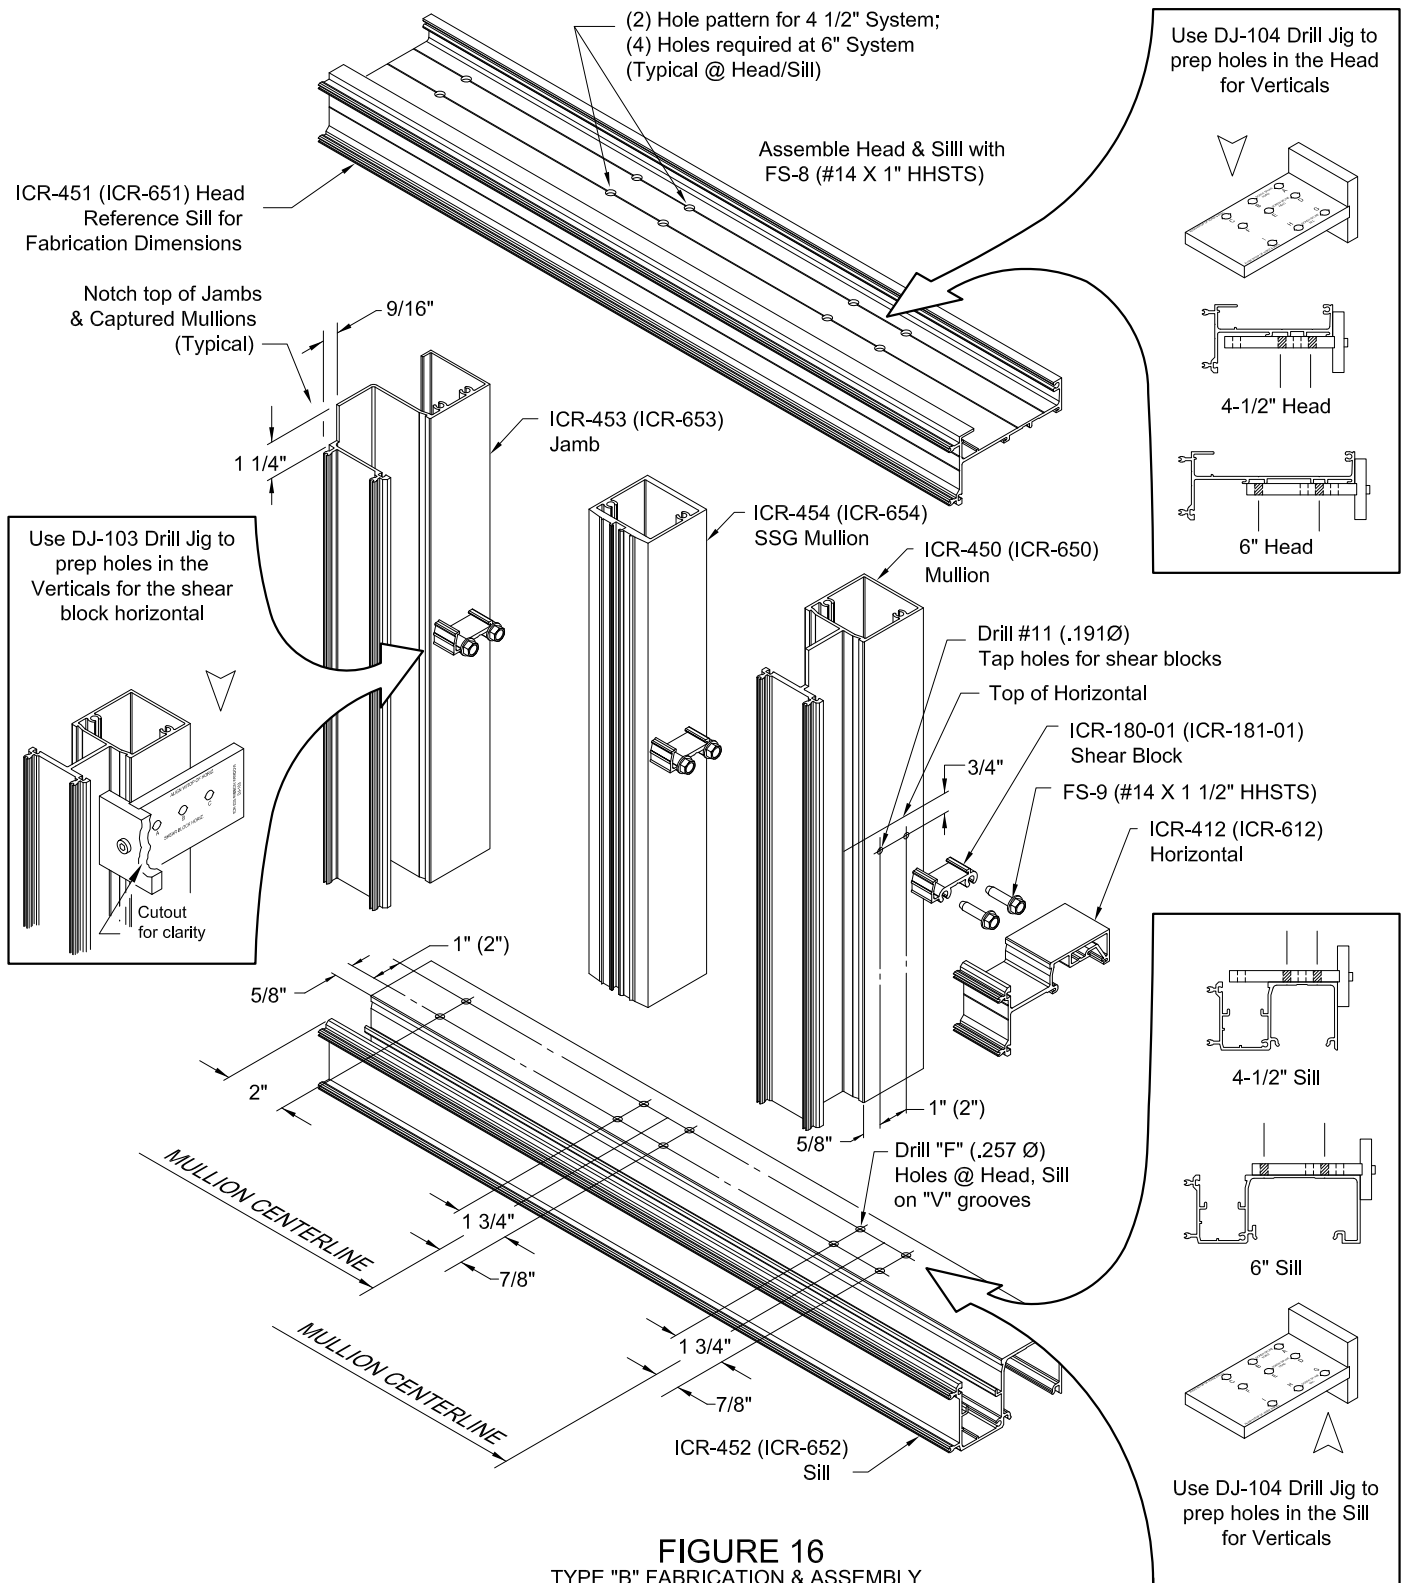

FIGURE 16
- 4.3 Fabricate head & sill members for vertical/jamb attachment. Use DJ-101 drill jig to drill the holes at the sill member and DJ-104 for the head member. SEE FIGURE 16, page 16
- 4.4 Align drill jig DJ-103 with top of Horizontal. Fabricate vertical mullions for intermediate horizontals. Notch top of all verticals and jambs for head member. SEE FIGURE 16, page 16.